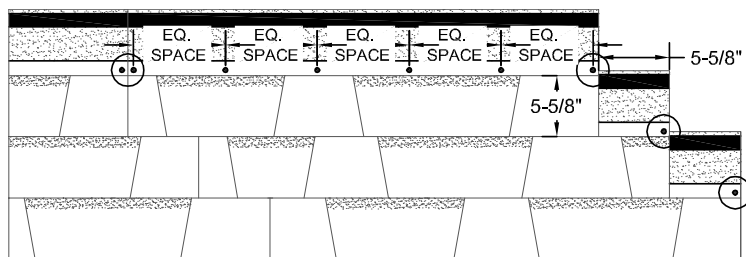

Figure 8 - Laminate, 6-Nail Fastening Pattern
Fastener location must be in the nailing area approximately 1" (25 mm) in from each edge and the remaining four (4) fasteners evenly spaced between. **(See Figure 8)**